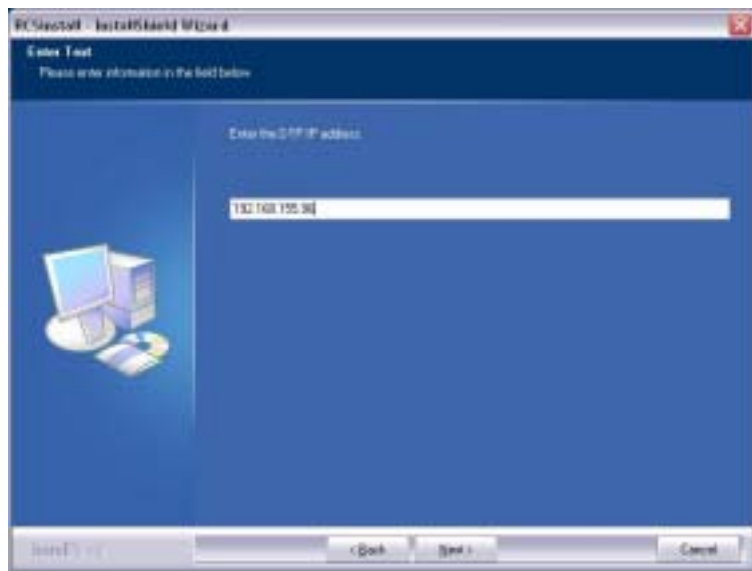

Figure 7. IP Address Prompt
2. When the install application prompts for the IP Address or Host Name of the DTP, type the IP address or Host Name in the text box. (See Figure 7).